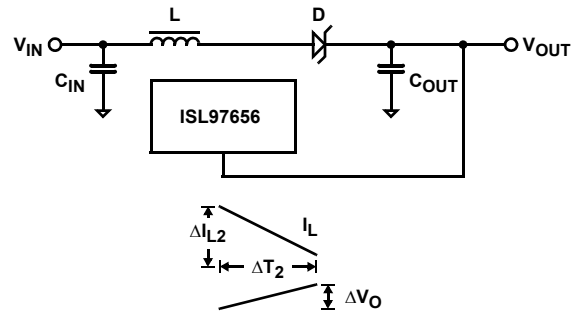

FIGURE 15. BOOST CONVERTER - CYCLE 2, POWER SWITCH OPEN
During the second cycle, the power FET turns off and the Schottky diode is forward biased, (see Figure 15). The energy stored in the inductor is supplied to the output. This energy is used to charge the output capacitor and supply output current. In this cycle switching node (LX) is held to  $V_{OUT} +$  Schottky diode drop. Voltage drop across the inductor is  $V_{IN} - V_{OUT}$  (ignoring diode drop across Schottky diode). The change in inductor current during the second cycle is shown in Equation 2: